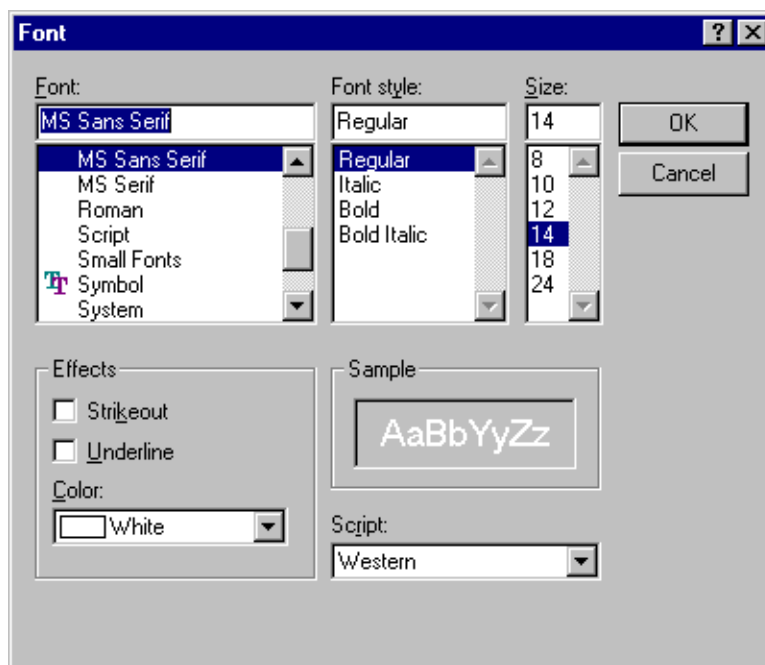

Figure 133. Font dialog box
1. Choose **View | Font** and the Font dialog box appears (Figure 133).